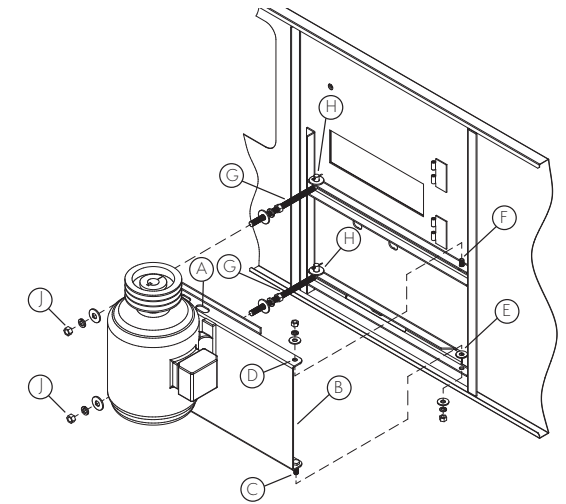

Figure 31 – External Motor Installation
1. Study Figure 31 before installing the motor base on the unit.